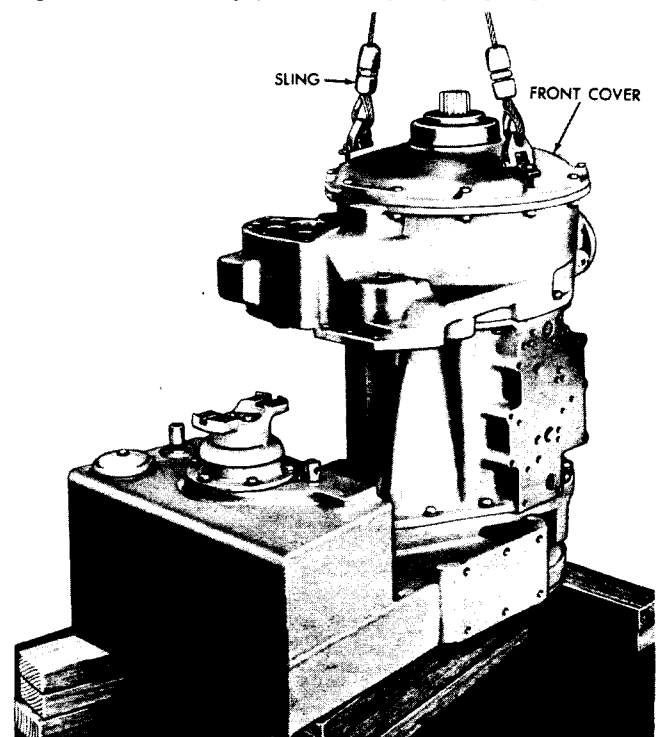

Fig. V-9. Positioning transmission on blocks
(1) Position the transmission on its rear surface and block it as shown in fig. V-9.
(2) Remove the 12 bolts, nuts and lock washers which retain the transmission front cover (fig. V-9).
(2) Install a bolt into one of the holes in the converter housing flange. Use a wrench, braced against this bolt, to prevent the con-